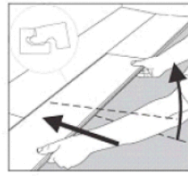

Figure 3
1. Begin the second row with the cut piece left over from the first row (Figure 3). If the cut piece is shorter than 8” (20cm), do not use it. Begin with a new board that is at least 8” in length and allows 8” of plank space between the end joints of adjacent planks for best visual results.
5. Install the remaining boards and rows in the same manner (Figures 3 & 4).